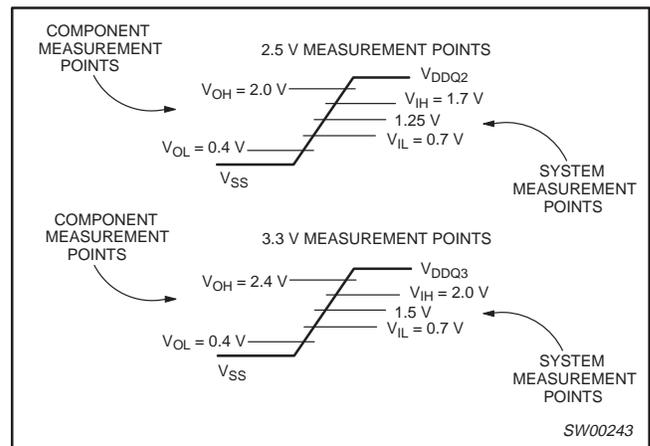

Figure 5. Component versus system measure points
- See Figure 5 for measure points.
- Output (see Figure 5 for measure points).